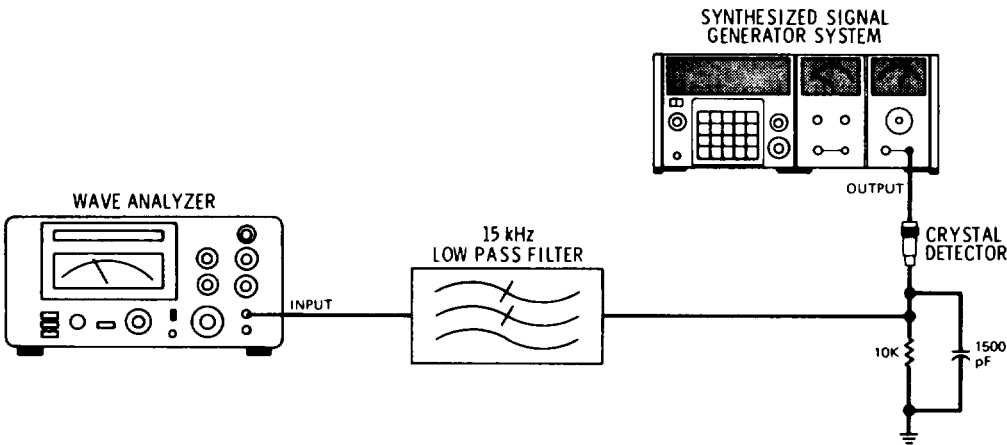

Figure 4-14. Incidental AM Test Setup
2. Connect the equipment together as shown in Figure 4-14.